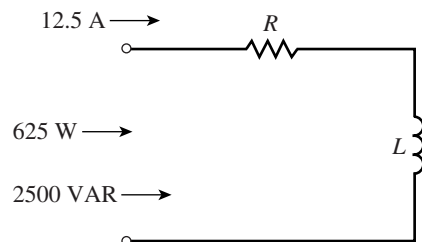

FIGURE 17-33
- Find R and X_L for Figure 17-33.